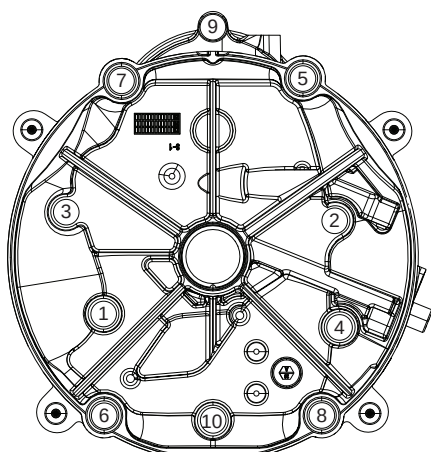

Figure 8-2. Gear Cover Torque Sequence
2. See Figure 8-2. Check gear cover torque using the correct sequence shown. Final torque on gear cover is 32.4–39.6 ft-lb (43.9–53.7) Nm.